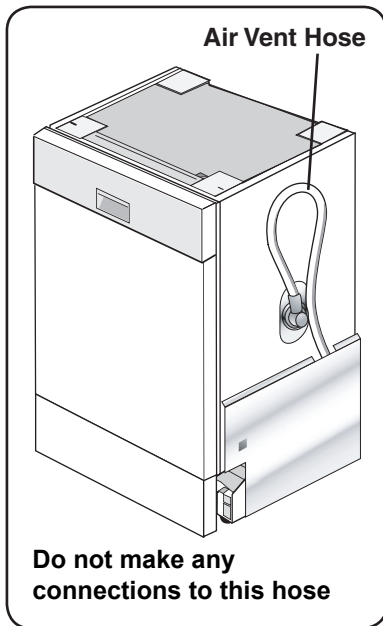

Figure 29
- The hose shown in Figure 29 is an air vent. The end of this hose should be left in the dishwasher base. Do not make any connections to this hose.